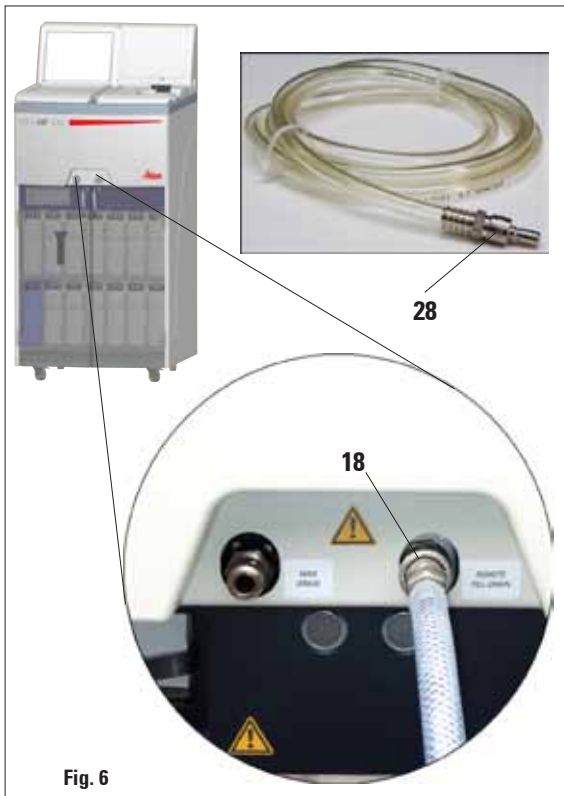

Fig. 6
- Connect the supplied remote fill/drain hose to the remote drain connection on the front of the instrument (refer Fig. 6).